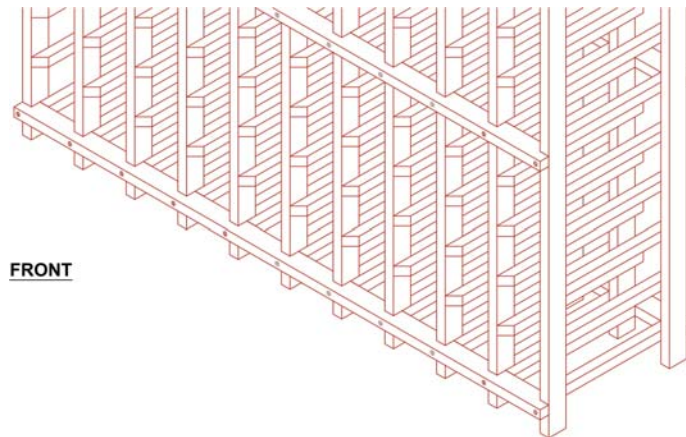

Figure 3
7. At this point all (11) *ladders should be attached to the spacer bar (**Figure 3**). Set another spacer bar over the next spacer slat location tapping gently with a hammer to ensure a proper fit on all uprights.
***Note: (7) ladders for the 6 Column; (8) ladders for the 7 Column; (9) ladders for the 8 Column; (10) ladders for the 9 Column.**